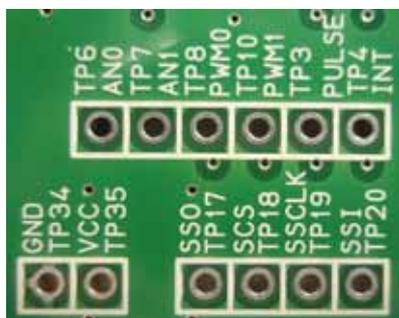
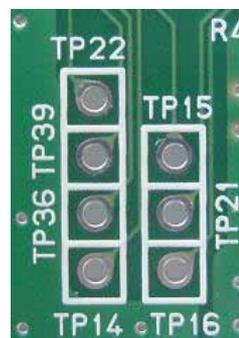

Figure 14 Test pins from MCU ports on the board (1)
Figure 15 Test pins from MCU ports on the board (2)
In order to connect external devices and enable MCU functions, test pins from MCU ports are grouped on the lower left area of the evaluation board, as shown in Figure 14 and Figure 15. Test Pin (TP) No. and corresponding port functions are listed in Table 9.